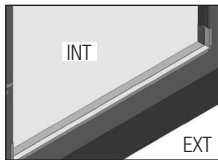

FIG. 7
- F) Flashing must cover the entire sill plate. If needed, apply an additional flashing piece over the first one (start from the exterior and work toward the interior). Maintain a minimum 1" overlap. (Fig. 7)